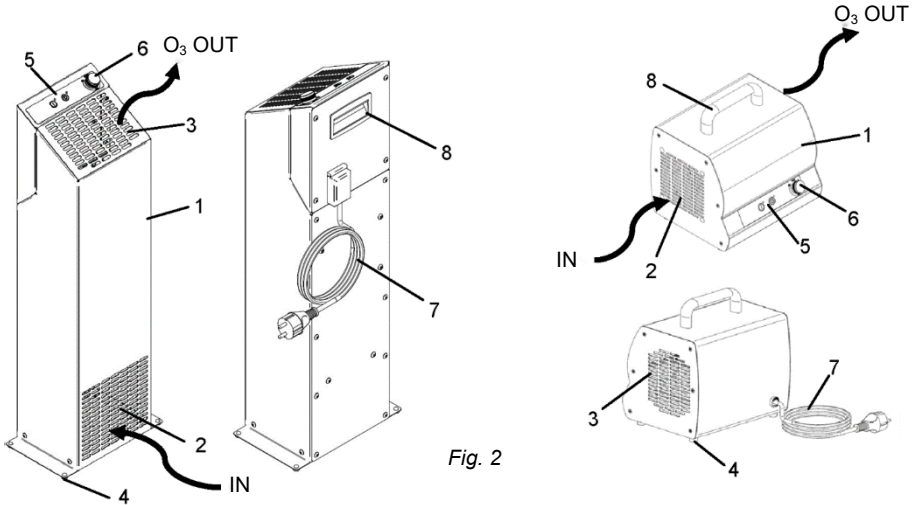
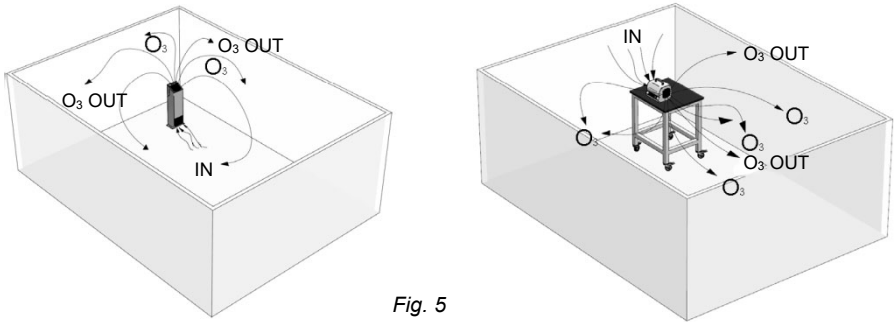

Fig. 2
Fig. 5
**Ozone/56MC:** place it on the ground. Both items must be placed away from walls, furniture, furnishings and more generally away from anything that might impede the correct flow of the air intake and of the ozone O3 emission (See Fig. 2). Place the generator in such a way that the ozone emitted flow is directed towards the open space to be treated, and never towards people and/or animals (Fig. 5).